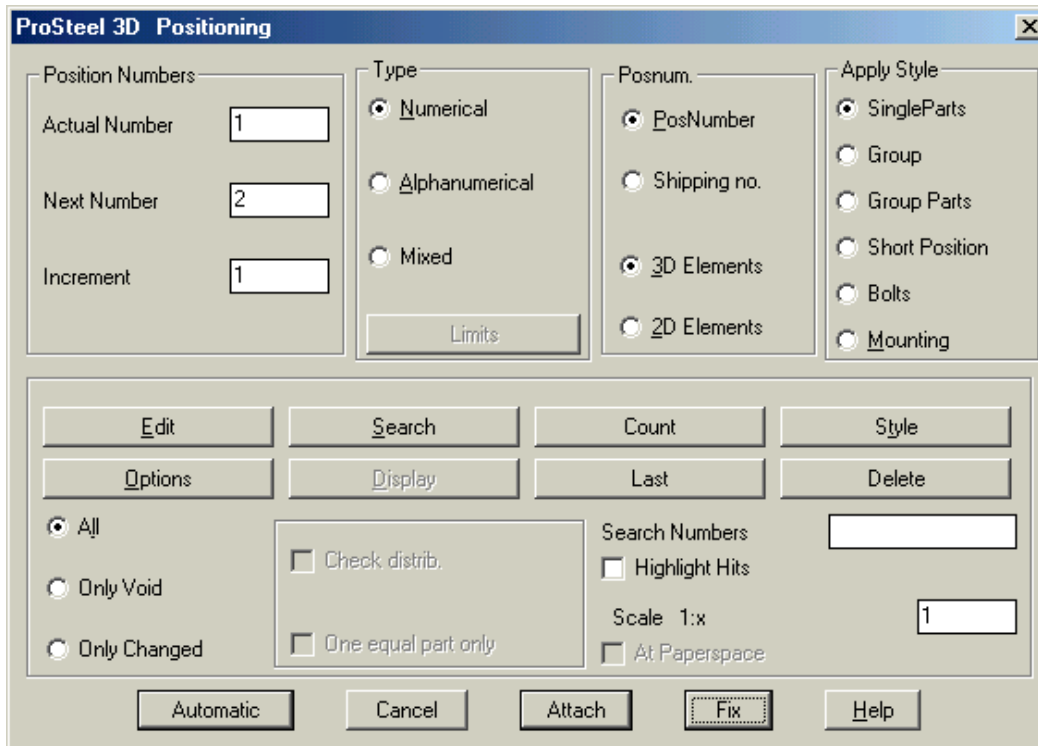
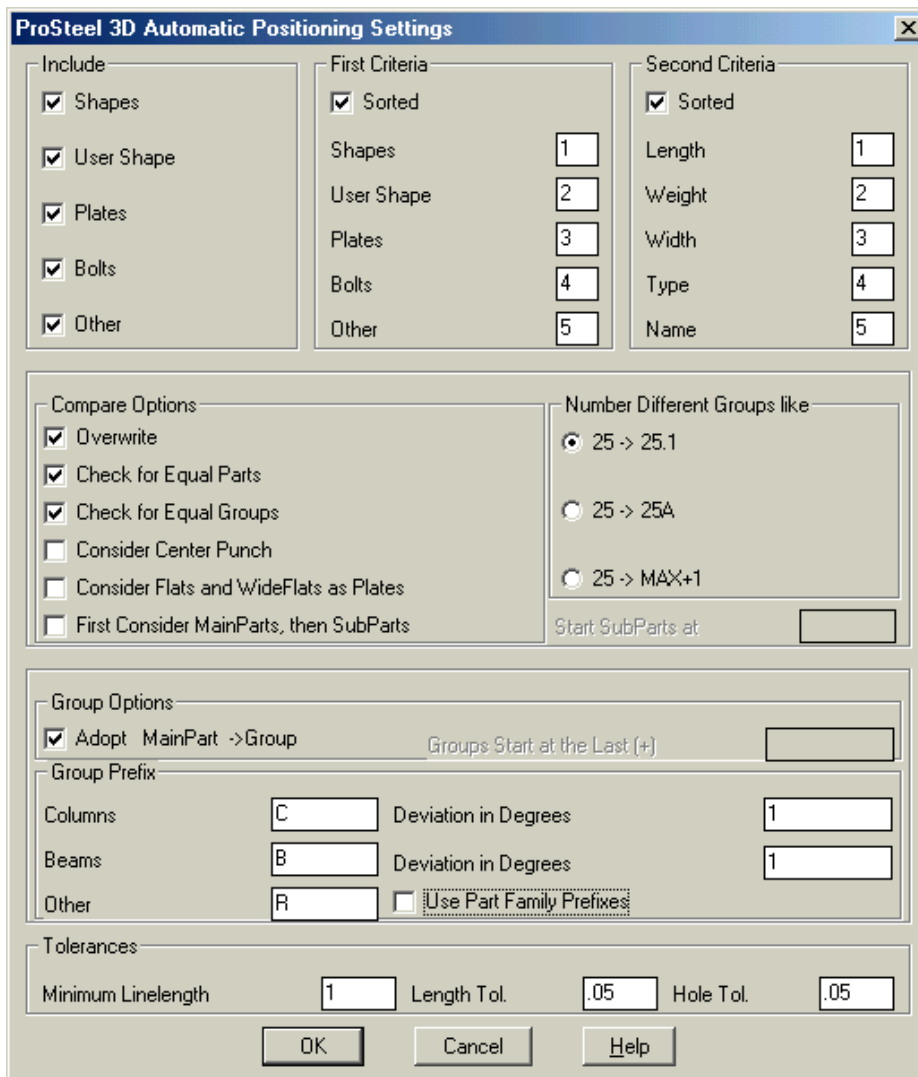

Fig. 13
Fig. 14
- What you will have once a group has been positioned is all parts of the group will have the same group number i.e. “C1” and all parts including the main group part will have a unique part number. Please note that this is the way I set them up as it suits the applications that I teach, however there are many options available in the positioning dialog box, see Fig. 13 & 14.
3. Fig. 14 is the dialog box that is displayed when the options tag is pressed on the Fig. 13 dialog box.
9. Fig. 14 is the way I set up my options box but there a many variations.